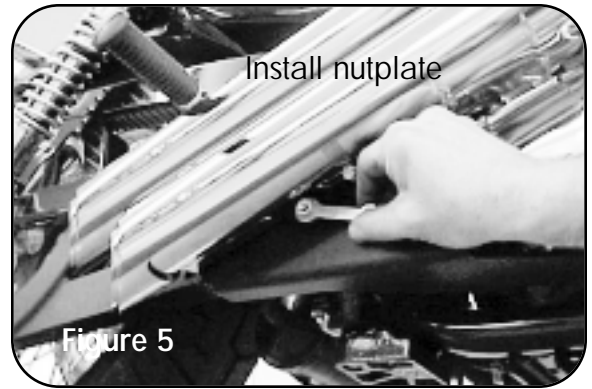

Figure 5
9. Slide nutplates inside brackets welded to backside of muffler bodies (Figure 5). While holding nut plates in place, attach muffler bodies to mounting bracket 374-P using four 5/16" x 5/8" flange head bolts (supplied). Leave them loose at this time.